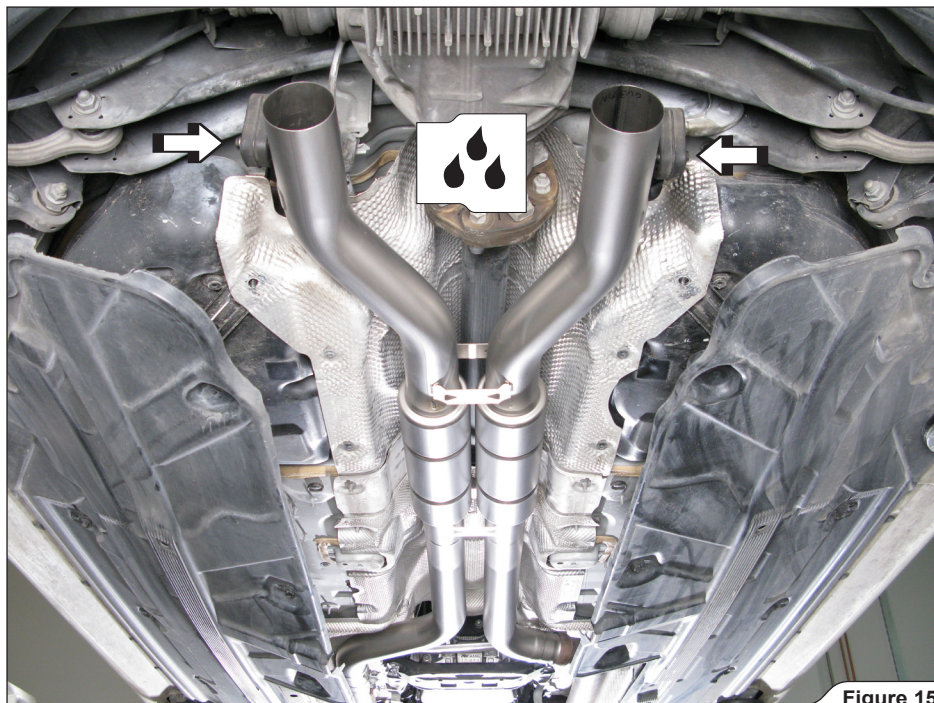

Figure 15
3. **For Evolution only:** hang the middle pipes onto original rubber brackets (**Figure 15**).